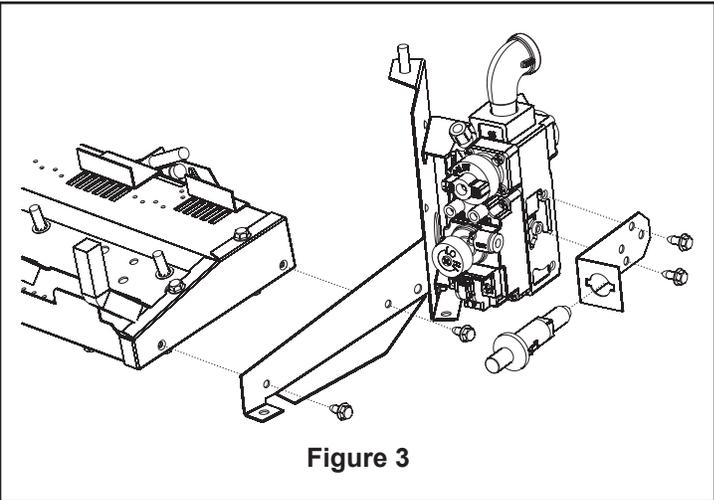

Figure 3
14. Attach burner leg to burner with screws removed in Step 9. **See Figure 3.**
15. Install Piezo bracket with two (2) 10 x 3/8" self tapping screws provided to outside of valve. **See Figure 3.**
16. Slide Piezo into bracket. Button faces out. **See Figure 3.**